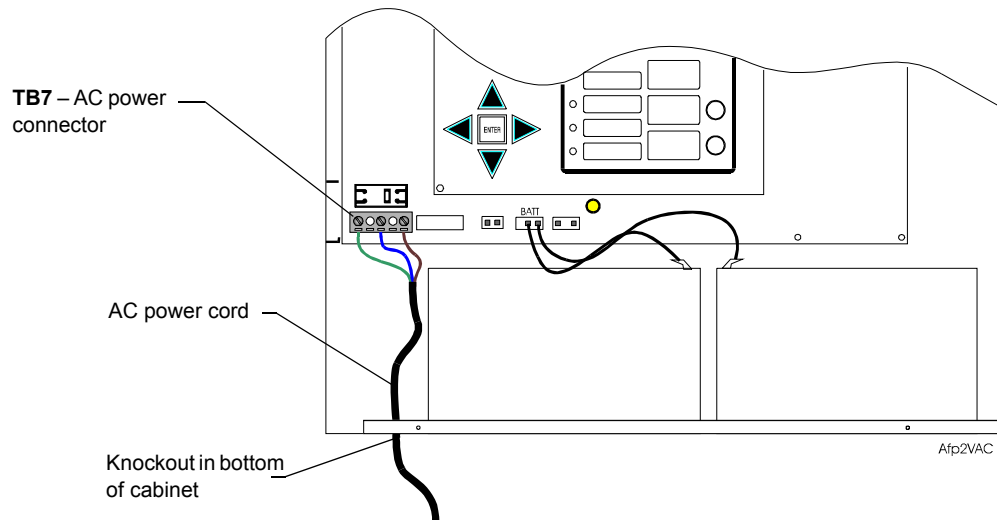

Figure 9 AC Power Connections (TB7)
2. Insert the stripped ends of the power cord through the knockout on the bottom of the control panel (Figure 9).